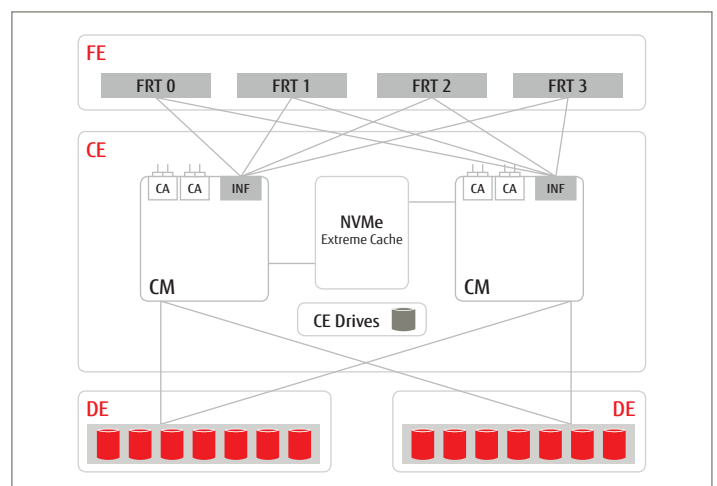

Figure 3
The Controller Modules residing in pairs in a Controller Enclosure are interconnected via the Front-end Enclosures (FE) consisting of four redundant Front-end Routers (FRT) which enable PCIe 3.0 high-speed data interchange between the controllers (Figure 3). Each CE can additionally support up to 8 dual-port NVMe (PCIe) SSDs (and up to 96 NVMe SSDs in the total system) as secondary flash cache (NVMe Extreme Cache). Usage of NVMe Extreme Cache lowers costs while offering superior performance.